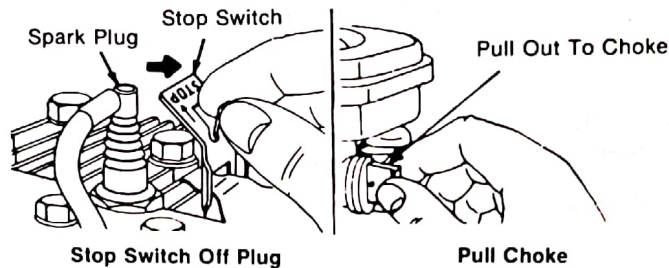

Figure 10
**Step 1)** Choke engine. Be sure stop switch is away from spark plug. Pull choke as illustrated. **(Fig. 10)**
**Step 3)** To stop engine. Push the stop switch against the end of spark plug. **(Fig. 10)**